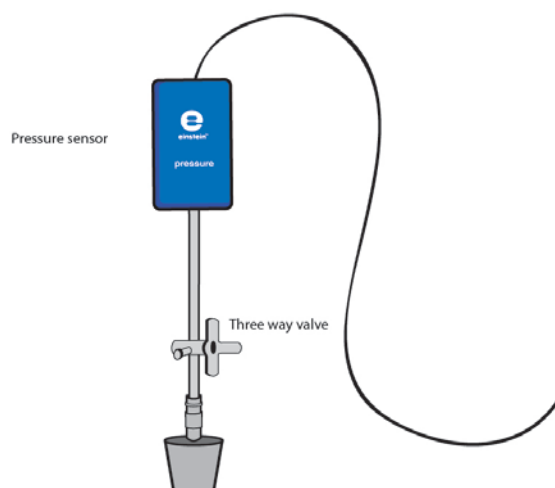

Figure 2
- d. Insert a syringe extender into the stopper (Figure 2).